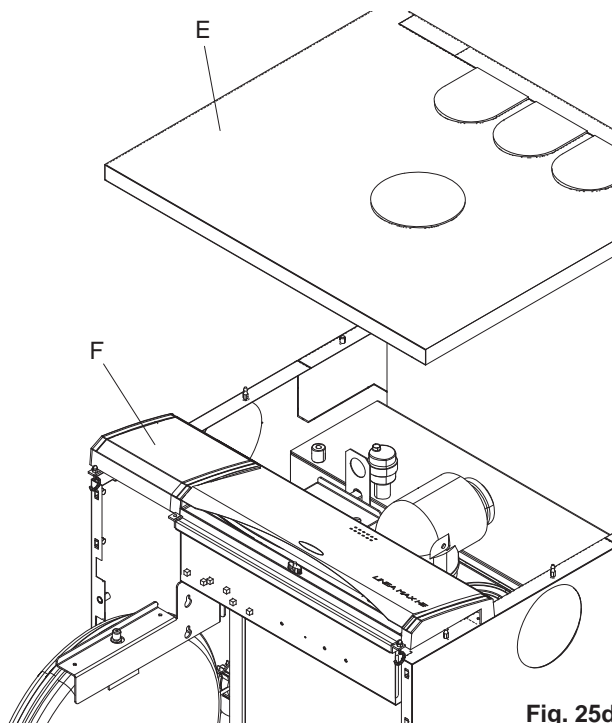

Fig. 25d
8.5.5 Remove top casing (E). Reposition the front control panel by first pulling it free from 4 locating lugs. Position the electrical panel (F) on top of the boiler so that it is supported by the two side panels (see fig. 25d).